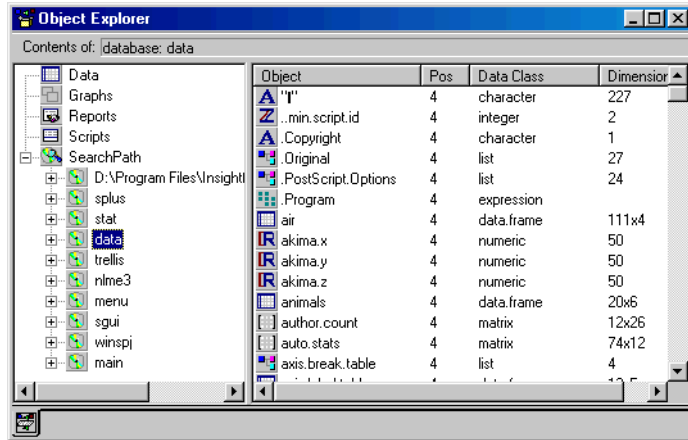

Figure 7.2: *Displaying the contents of a database in the right pane.*
2. In the left pane, select a database (for example, **data**) by clicking its icon. The contents of that database are displayed in the right pane, as shown in Figure 7.2.